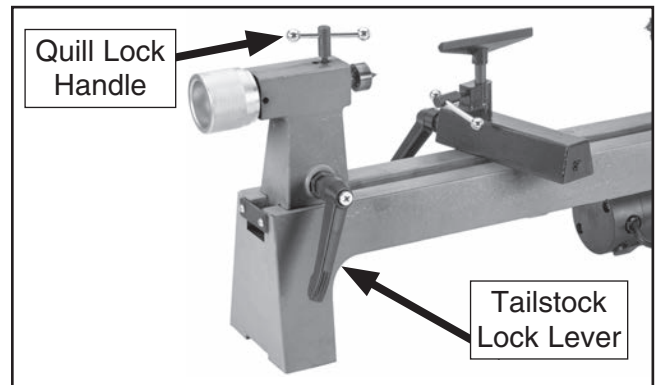

Figure 7. Hardware installed in tailstock.
1. Install tailstock lock lever and M6-1 X 18 quill lock handle (see **Figure 7**).